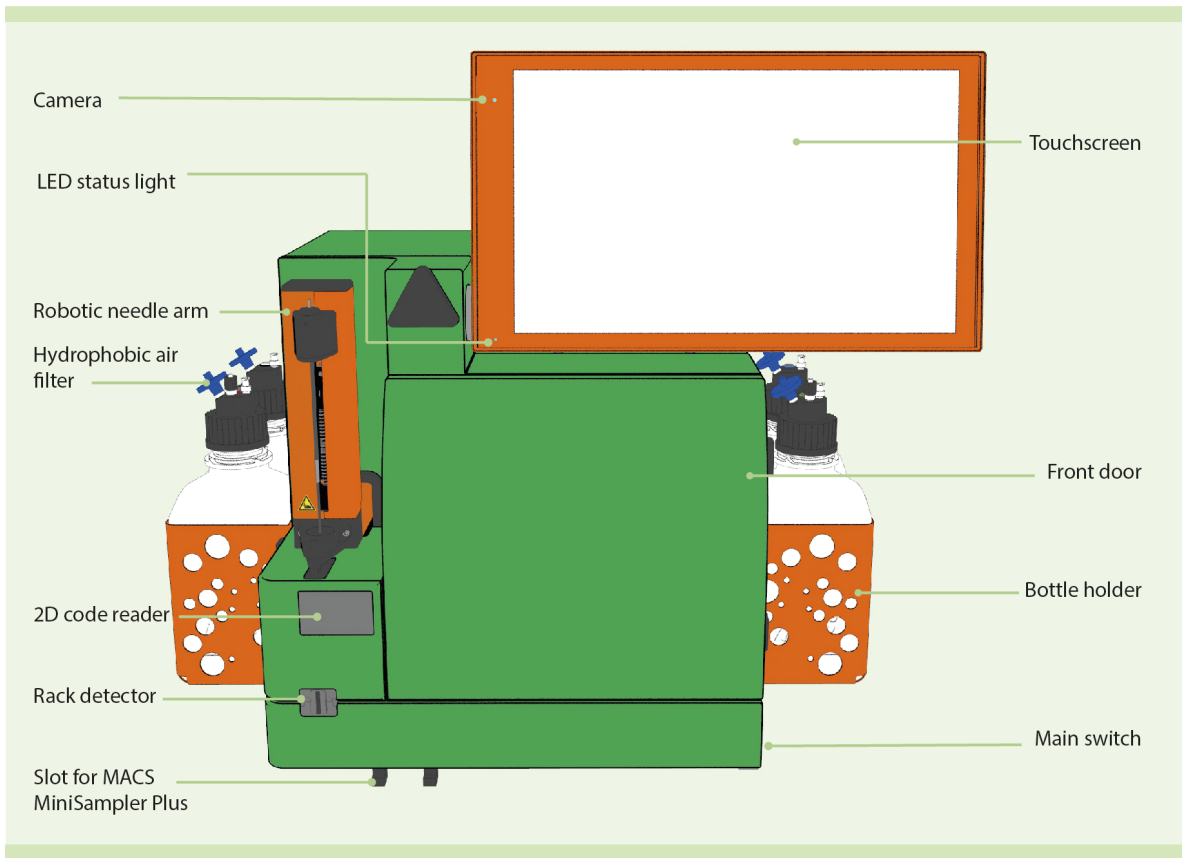

Figure 1.1: Front view of the MACSQuant® Instrument.
- 1 Connect the power cord to the power socket at the rear side of the instrument. The main power switch is located on the right side of the instrument (**Figure 1.1**). Ensure that the main switch is in position O (off) before connecting the power cord.